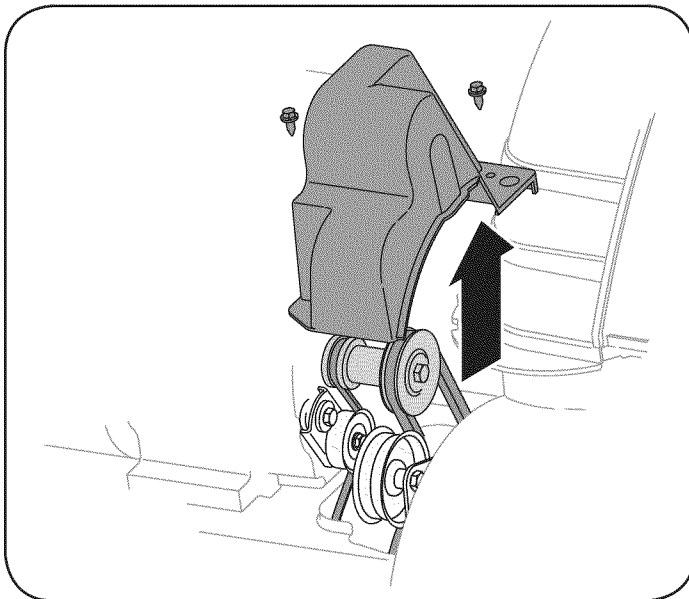

Figure 28
2. Remove the plastic belt cover on the front of the engine by removing the two self-tapping screws. See Figure 28.
2. Remove the plastic belt cover on the front of the engine by removing the two self-tapping screws. See Figure 28 on previous page.